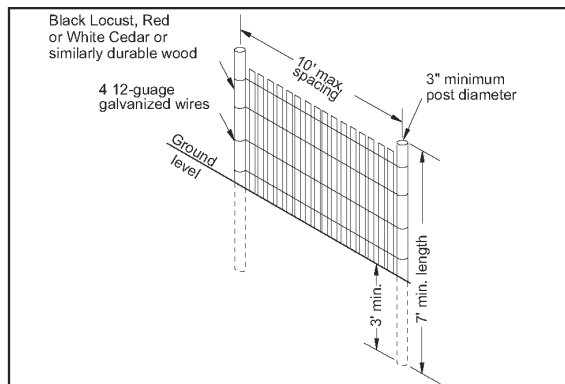

Figure 2. Sand Fence Installation Requirements
- Sand fences should be the same as commercially available snow fence approximately as shown in Figure 2.